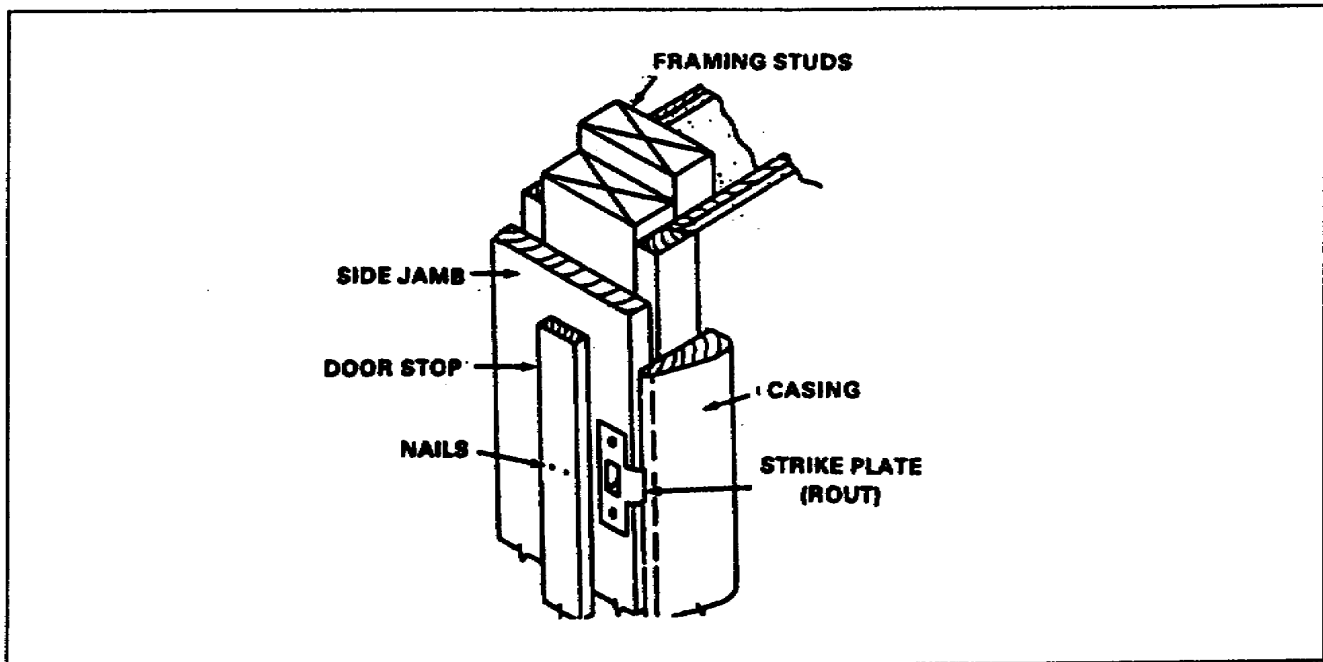

Figure 1-63. Striker plate
f. Striker Plate. A striker plate (Figure 1-63) is usually mortised into the frame of the opening for a lock. It prevents the wood from wearing or splitting and cannot be pried loose easily.